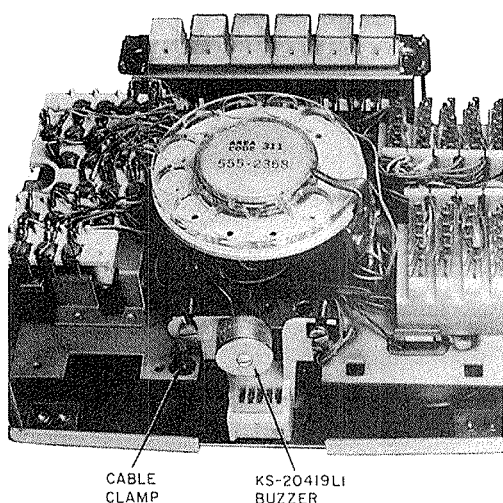
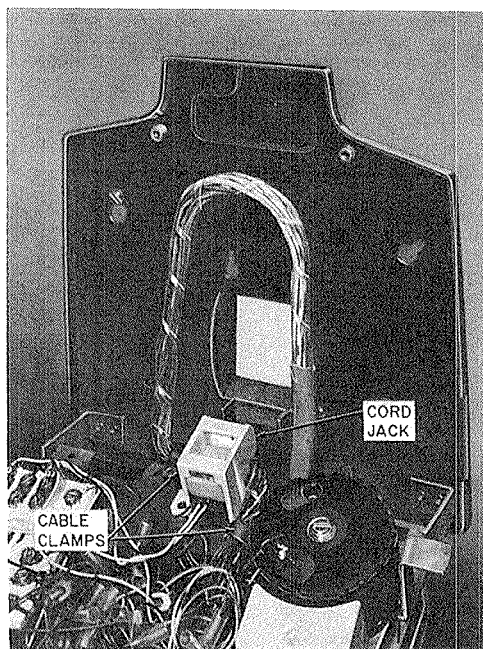

Fig. 8—KS-20419L1 Buzzer Mounted on 851-Type Telephone Set
Fig. 9—Inside Wiring Cable, Exposed Wiring
- (1) Remove sheath to surface of outlet box or bottom of hole in base pan, depending on method of wiring.
- (2) Remove cable clamps. Pinch legs of clamp from front of chassis (Fig. 8).
- (3) Slip one of the clamps provided with set around conductors approximately 9 inches from end of sheath. Add second clamp 2 inches above first.
- (4) Form slack loop as shown in Fig. 9 or 10 and install first clamp in hole to left of cord jack.
- (5) Route cable below jack and install second clamp in hole to left of ringer.
- (6) Twist ends of conductors together and feed through opening between dial, ringer, and connecting blocks.
3.06 If the set is served by the connector equipped end of an A25B connector cable, a D-180375 Kit of Parts must be used to obtain raw-ended conductors for termination. The mated connector and plug should be located as shown in Fig. 11. Check that connector and plug do not interfere with operation of line switch. Cable is routed and fastened in same manner as IW cable (Fig. 9 and 10).
3.15 **Buzzer:** The KS-20419L1 buzzer is mounted on an insulated bracket below the dial (Fig. 8). If required, the KS-20419L1 may be replaced by the KS-8109L2 buzzer (14-30 volt ac or dc) which would be mounted using both screws.